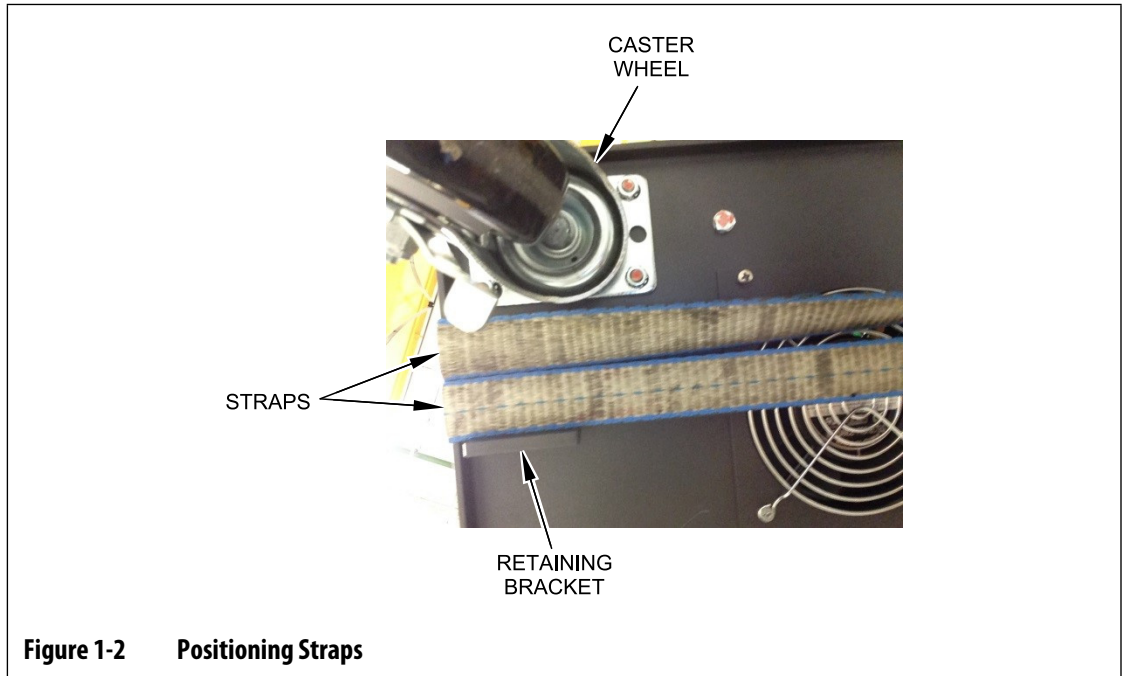

Figure 1-2 Positioning Straps
- a. Make sure that the straps are put between the caster wheels and the retaining brackets under the base of the controller. Refer to Figure 1-2.